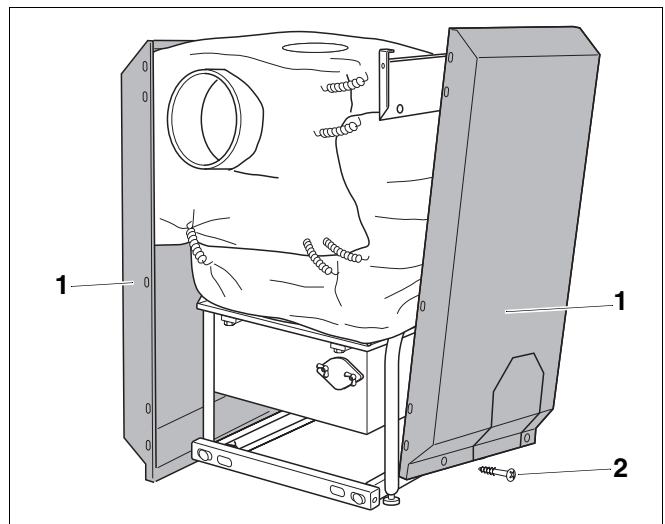

Fig. 11 Fitting side panel
- Hook the top of the right and left-hand side panels (Fig. 11, **Item 1**) into the beams and push forward against the stop.
- Screw the front of each side panel into the cross-beam using a self-tapping screw (Fig. 11, **Item 2**).